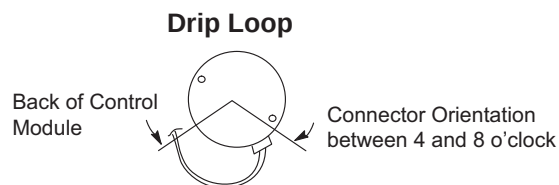

Figure 18.
- 5 - The electrical connectors of the motor should be facing down to form a drip loop (**Figure 18**). This will direct moisture away from the motor and its electric connections on the motor.
4. Move gas valve switch to OFF position. Do not force. See Figure 18.